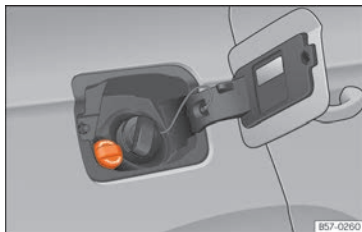

Fig. 308 AdBlue tank cap.
- Open the tank cover **»» Fig. 308**.
»» Fig. 308.